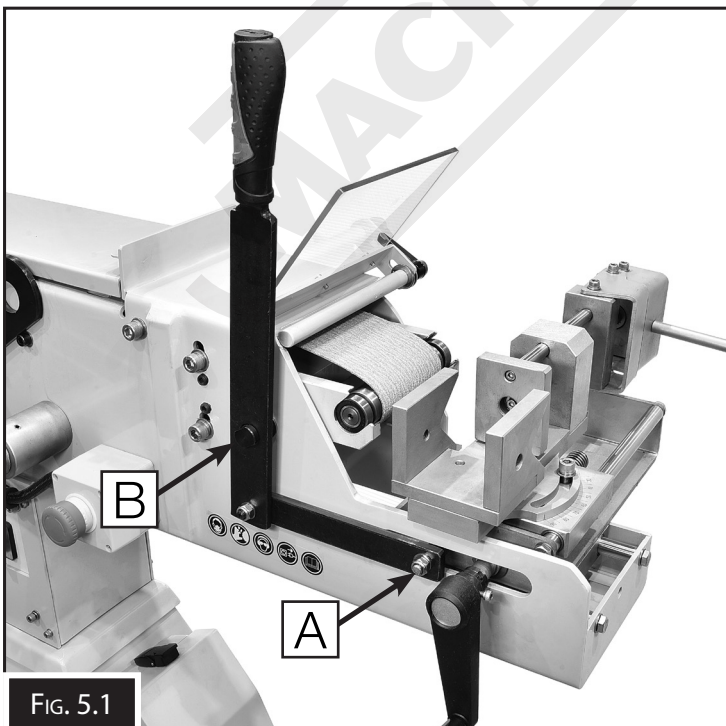

FIG. 5.1
11. Remove the Nyloc Nut **A** & Pivot Bolt **B** from the side of machine as shown in (FIG. 5.1).
12. Mount the Vice slide Lever in place using the Nyloc Nut **A** & Pivot Bolt **B** shown in (FIG. 5.1, 5.2, 5.3).